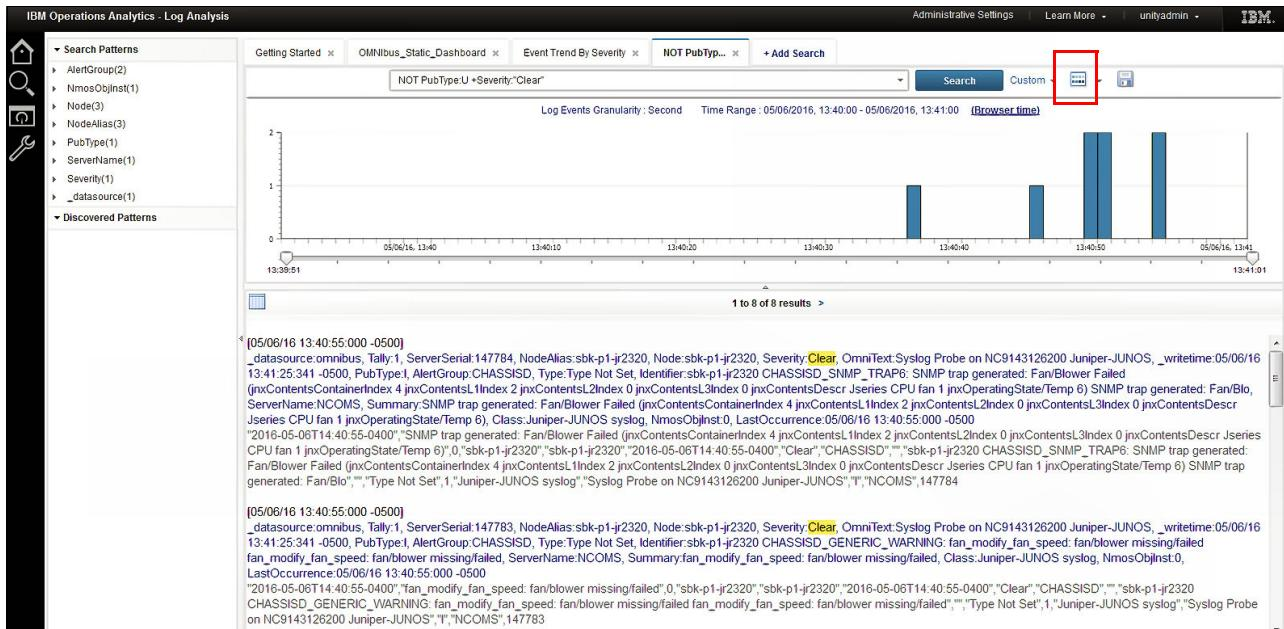

Figure 7-7 Event details
10.Jane selects the node host name and drills down to see the events that contain that host name. By carrying out this search further, she sees the events that show where the problem is occurring. She clicks the **NOT PubType** tab and sees the devices or locations that are responsible for the flood, as shown in Figure 7-7.
- 11.Jane clicks the small **grid** icon (as shown in the red box in Figure 7-7).